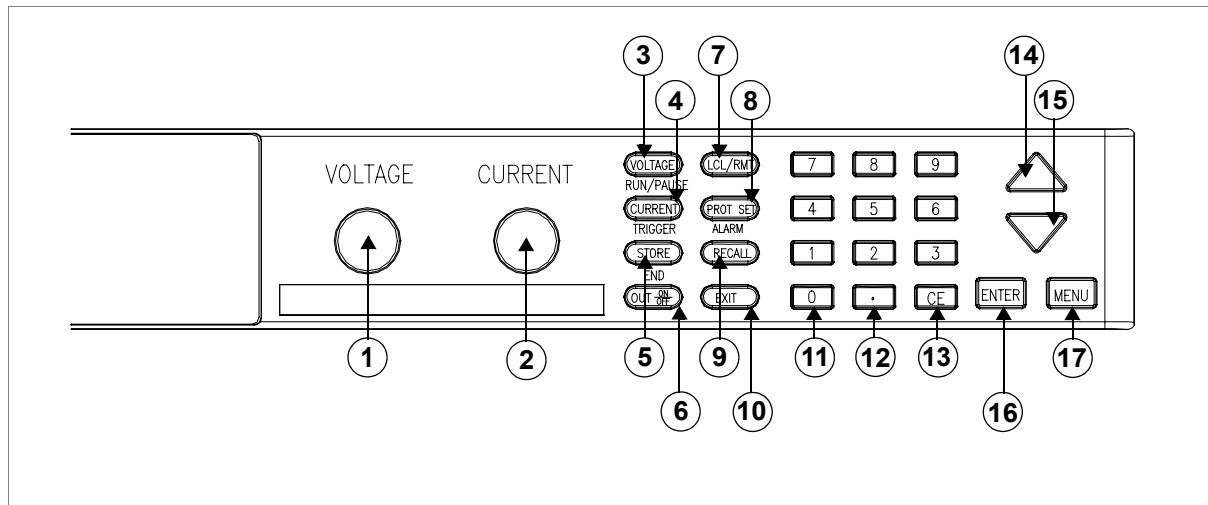

Figure 1.3 Keypad
8. Keypad. (See Figure 1.3 for details.)